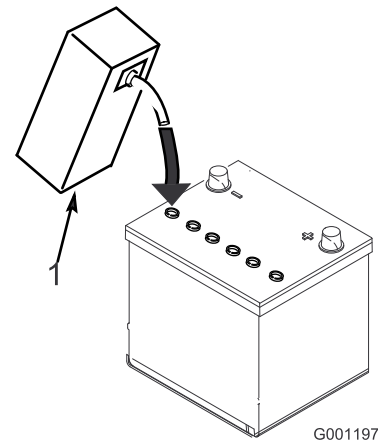

Figure 4
3. Carefully fill each cell with electrolyte until the plates are covered with about 1/4 inch (6 mm) of fluid (Figure 4).
4. Allow approximately 20 to 30 minutes for the electrolyte to soak into the plates. Fill as necessary to bring the electrolyte to within about 1/4 inch (6 mm) of the bottom of the fill well (Figure 4).